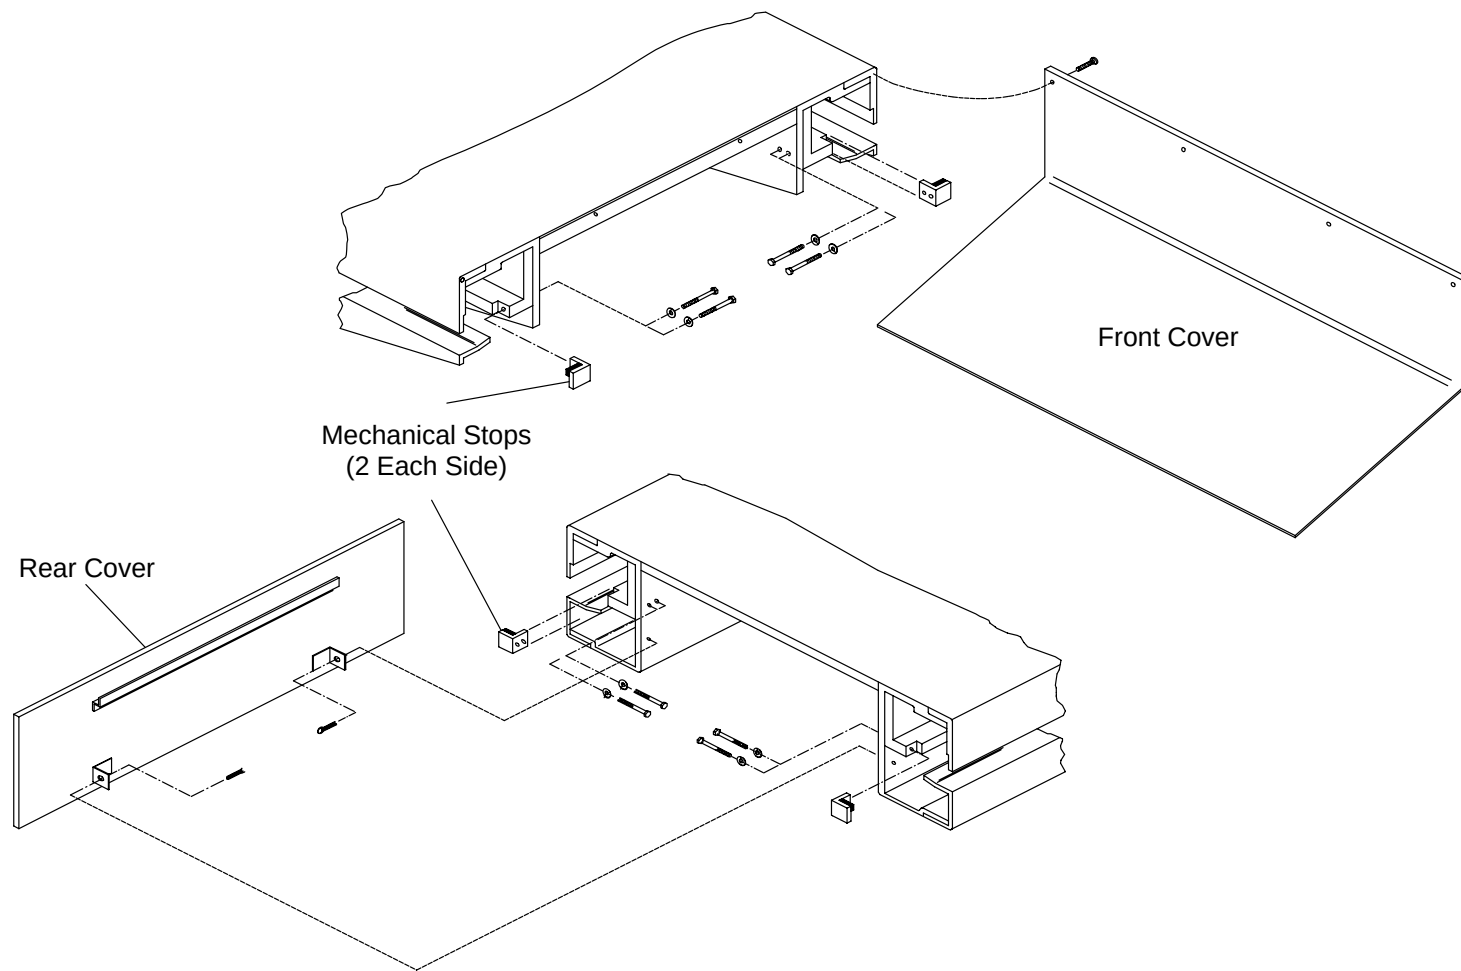

FIGURE 194 MECHANICAL STOPS
3. Remove the front or rear Mechanical Stops (as appropriate for the bearings being replaced). Refer to Figure 194.